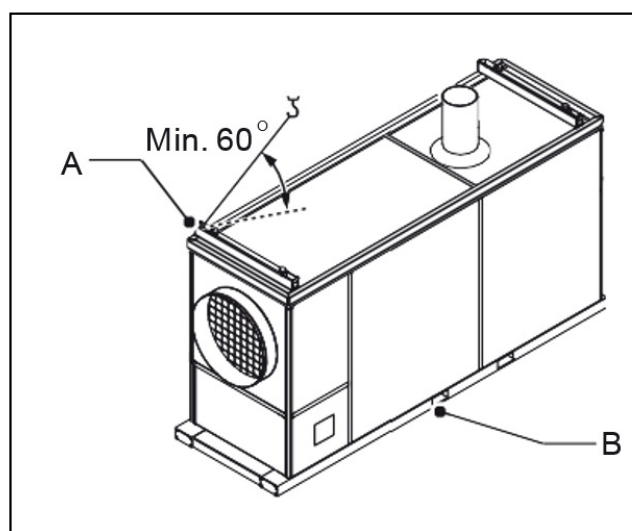

Fig 2
**1.2 Lifting instructions (Fig. 2)**